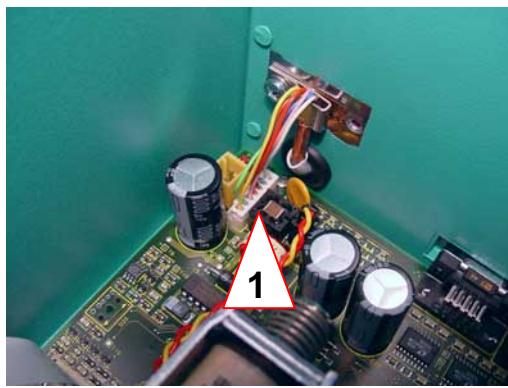

Fig. 4-7 AutoQC cable
16. Pull off the AutoQC cable from the AQC board (see Fig. 4-7, 1).